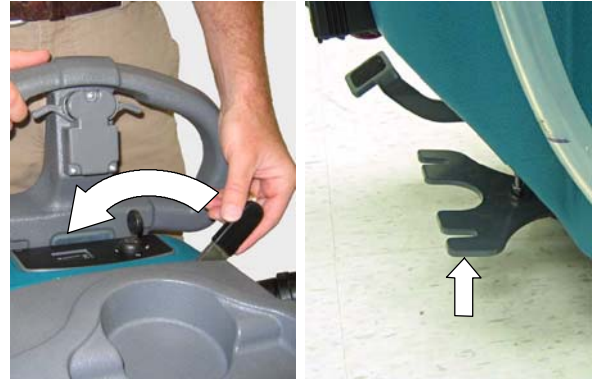

FIG. 2
2. Raise the squeegee mount bracket by moving the squeegee lift lever to the right (Figure 2).